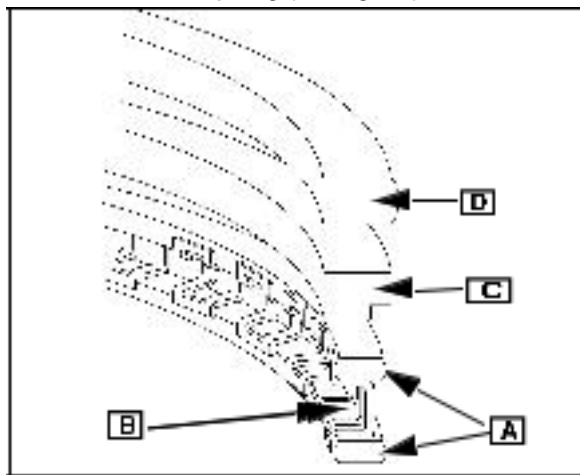

Fig. 14
3. Install the top ring ([D] Fig. 14).